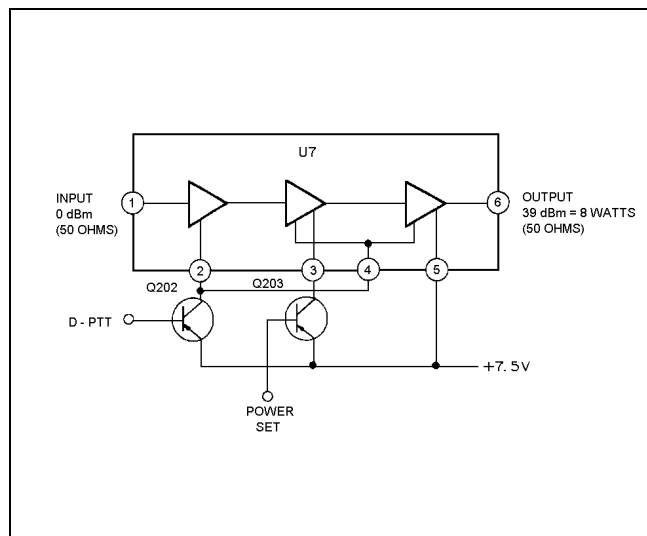

Figure 6 - Power Amplifier (PA) VHF
Power Amplifier (PA) U7 is a three-stage, wideband amplifier module with an input and an output impedance of 50 ohms (Figure 6). The second stage of the PA module has the dc power supplied by power set transistor Q203. The rf power output from amplifier is connected to pin 1 of the PA module where it is applied to the input of the rf power amplifier stages. The RF power amplifier stages amplify the input from the Tx-Amp module to a typical power output level of eight watts at pin 6. The output at pin 6 is connected through the LPF/DC/SW module. A minimum power level of six watts is on the output output of the LPF/DC/SW module.